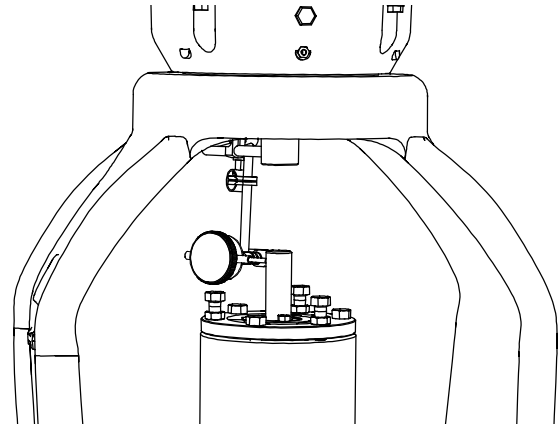

Figure 6-1: Fine Tune shaft alignment
2. Reset the pump components and motor by loosening the motor, motor support (240) and casing (100). Loosen the bolts just enough to allow some movement with the components.
3. Increase the impeller clearance by using the jack bolts (370D) on the bearing housing (134). A quarter turn is all that is needed to provide the extra space between the impeller (101) and casing (100) to avoid any contact issues during alignment.
6. Tighten casing bolts (370) in a star pattern to 60% of their recommended torque value. Go around the star pattern again and torque to 90% of the recommended torque value. Recommended casing bolt torque values can be found in Table 13-1 on page 37.
7. Connect a dial indicator to the coupling end of the pump shaft (122) as shown in Figure 6-1. Mark the pump shaft (122) in one location to indicate the position to take measurements.
9. Increase torque on casing bolts (370) incrementally to adjust the alignment of the pump shaft with the motor shaft. Do not exceed 110% of the recommended torque value. After each series of casing bolt (370) adjustments repeat step 5 and 8 until desired shaft alignment is reached.